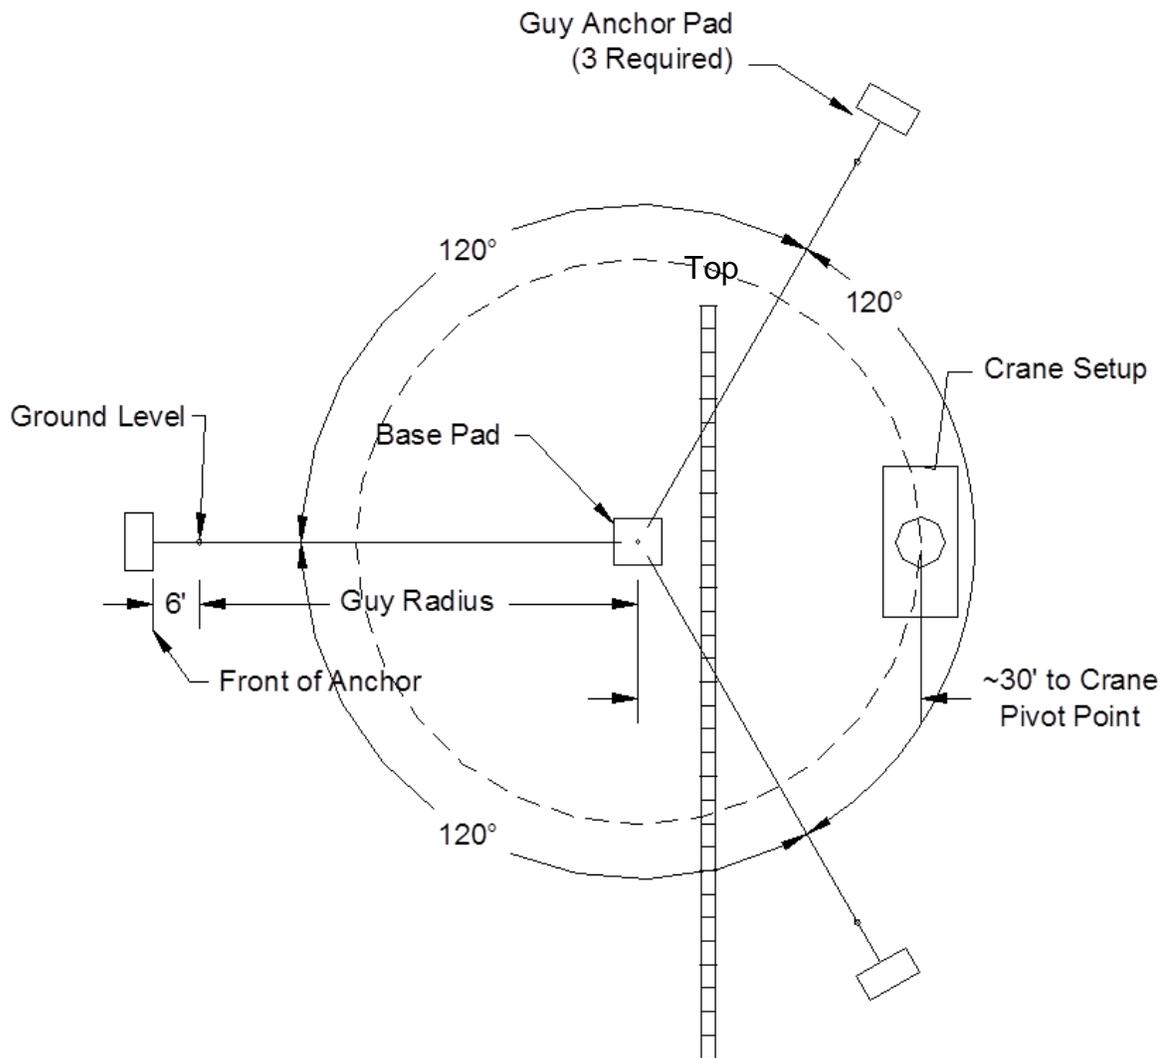

Figure 6: Construction Site Layout Plan View for 60'-140' towers
Figure 6 (60-140' tower) or **Figure 7** (160' tower). Plan to lay the tower sections out in a line so that the lift point of the tower is roughly in line with the base pad. Plan for the crane to set up approximately 30'-35' from the base pad, in line with one of the anchors. The tower should be assembled between the crane and the base pad.
- c. **Figure 6**).